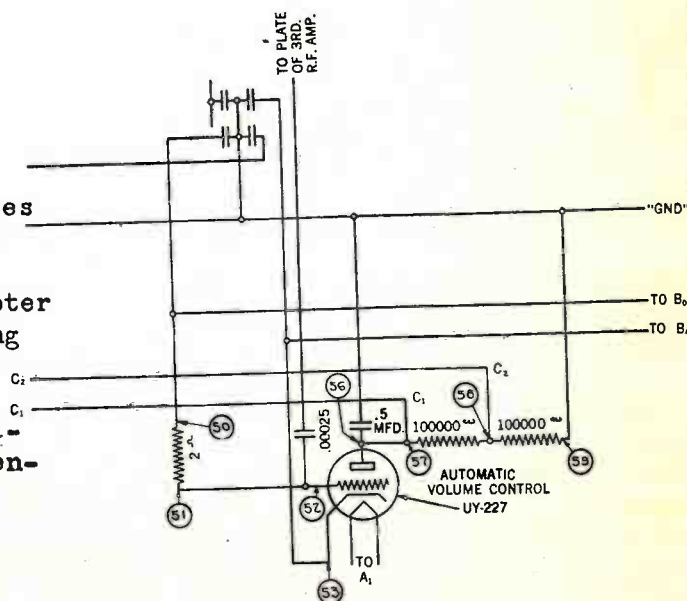

Fig. 73 - Automatic volume control circuit.
(11) Automatic Volume Control. Modern sets are so sensitive, and capable of giving such great volume, that it is annoying to tune for a weak station and suddenly have a powerful local rear in. To avoid this, some sets employ automatic volume controls, which limit the volume automatically. Fig. 73 shows the circuit used in the Stromberg Carlson "No. 846" receiver, which employs a type '27 tube, the grid circuit of which is coupled through a .00025-mf. condenser to the output of the R.F. amplifier. A 2-megohm grid leak is used to prevent blocking of the tube and to hold the grid bias at the proper value. The plate is connected to ground through two 100,000-ohm resistors; but, since the cathode is at a lower potential than ground, plate current will pass through these resistors. The drop across both of them serves to bias the grid of the first R.F. stage, and the drop across one to bias the second R.F. stage. Thus, when the received R.F. signal reaches a certain intensity, current through the resistors decreases; resulting in less negative bias on the amplifier tubes and reducing the amplification. An equilibrium is soon established, in which the volume is maintained at a constant limited value. It seems needless to add that all resistors are thoroughly by-passed to prevent any radio-frequency feed-back; only the voltage drop across the two 100,000-ohm resistors, resulting from the average signal-intensity value, is instantaneously and automatically fed back to the R.F. amplifier grids. Many other sets use similar controls, such as the Kellogg 523 and 526 shown in the diagram section of this book.
(12) Radio-Frequency Amplifier Trouble. Trouble in R.F. amplifiers resolves itself into: